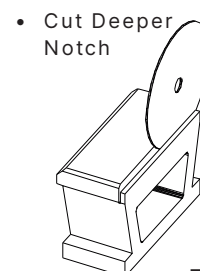

Figure 4
**Setback Vs. Vertical Sides.** Allan Block's built-in setback automatically increases stair width with each successive course. To keep stairs vertical and eliminate the need to cut AB Capstones for widening stair treads, cut a deeper notch in the bottom of the return blocks and move them inward to align in a vertical position (Fig. 4, 5 and 6).